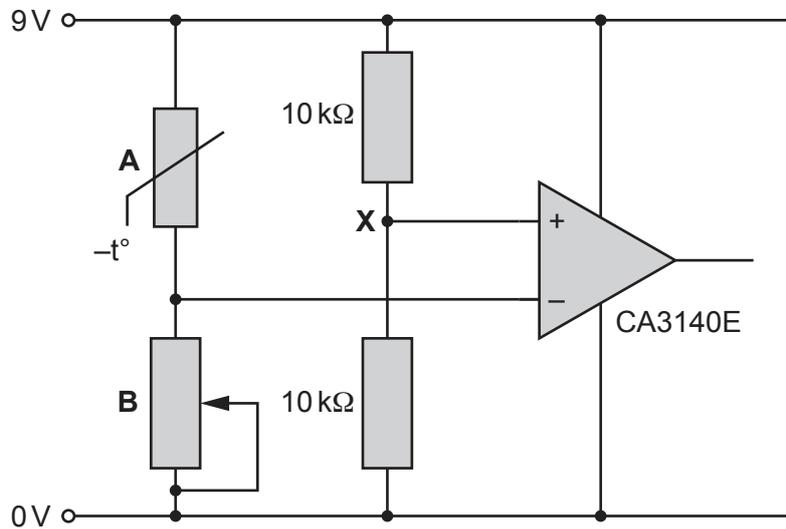

Fig. 12.4
- (c) A frost monitor is required for a greenhouse to sound an alarm when the temperature falls below 3°C. Fig. 12.4 shows part of a simulated CAD circuit for the greenhouse frost monitor.